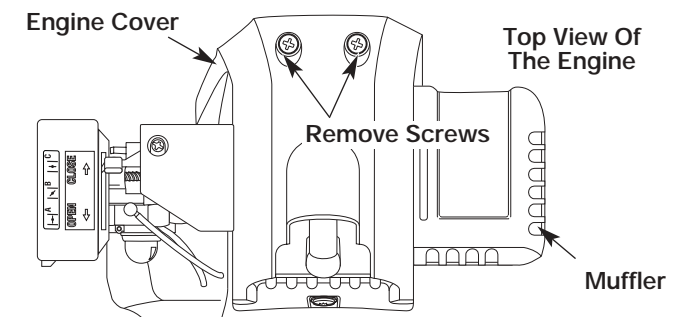

Fig. 28
2. Remove the two (2) screws on top of the engine cover with a phillips screwdriver (Fig. 28).